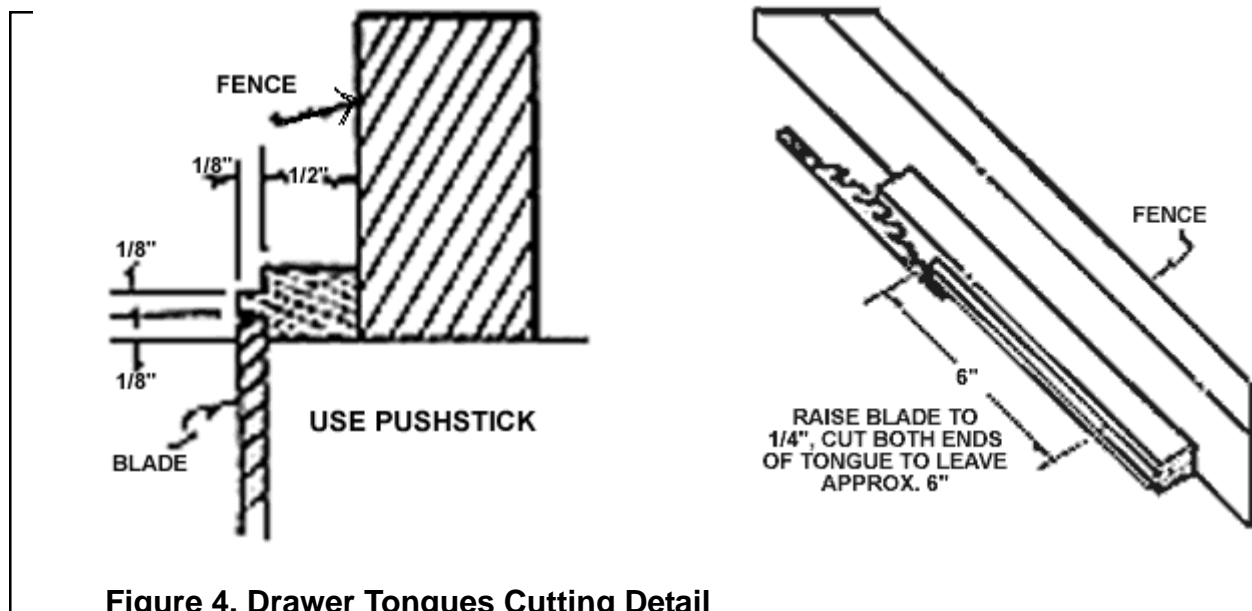

Figure 4. Drawer Tongues Cutting Detail
6. Use a push stick and cut tongues a hair less than the depth of the slots you just milled in the drawer front on one edge of each drawer pull (L) (see **Figure 4**).